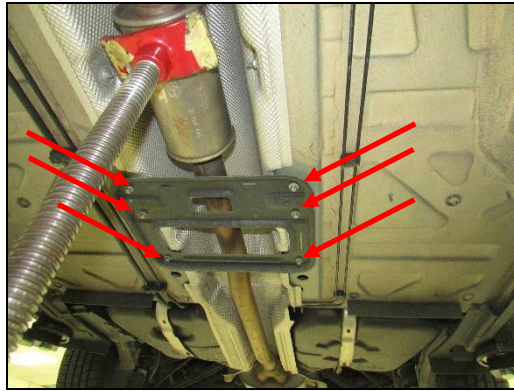

Figure 3
4. With a jack stain hold the OE exhaust up,remove the (x6) 10mm bolt heads and remove the cross brace (**Figure 3**).